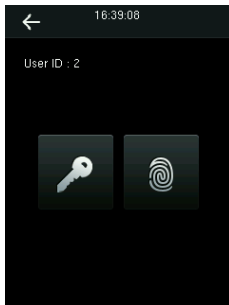

figure 4
2. Input user ID which needs to do password verification and press **[OK]**, **figure 4** will display.